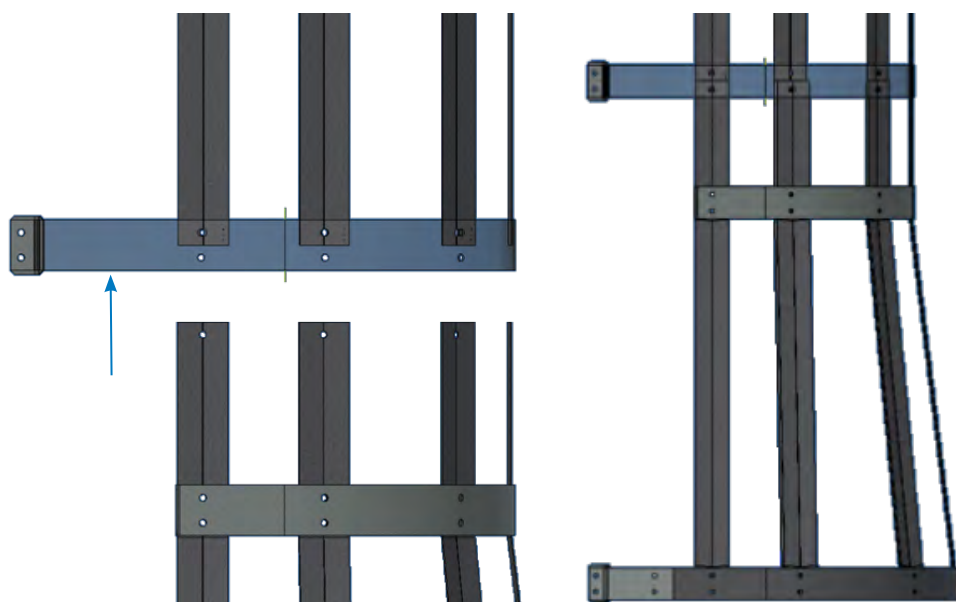

Figure 20.
8. If the ladder was supplied with a safety cage, assemble the bottom flared section to the upper safety cage section. Secure with supplied hardware. See **Figure 20**.